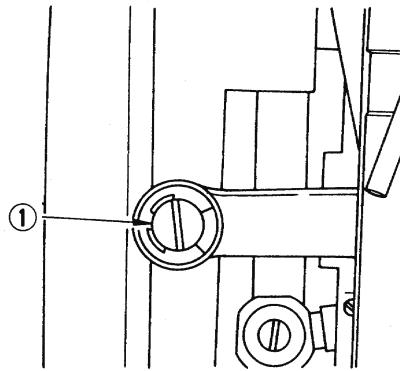

Fig. 52
After correct timing is adjusted, clamp in the set screw tightly. Replace the machine head cover. The correct position of the needle drop is set at the plant. If the needle does not drop in the center of the groove of the throat plate at the "0" position, remove the face plate, loosen the eccentric shaft set screw and by slightly rotating the eccentric shaft (Fig. 52 ①), watch the needle dropping position carefully and adjust to the correct position.